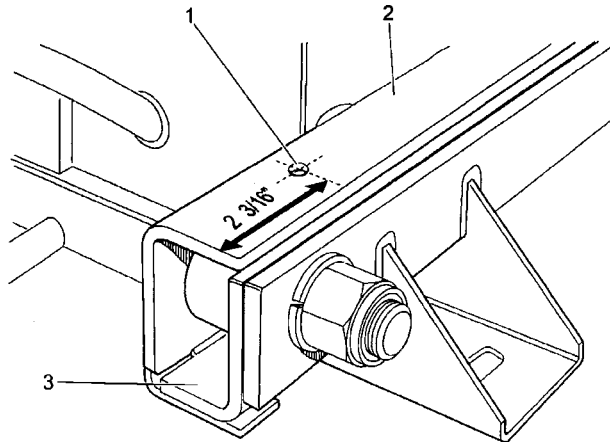

Figure 1-1 Quick Release Pin Hole
3. Drill 2 3/16" from the center edge of the battery tray arm (2), a 3/8" hole (1). Refer to **Figure 1-1**.
Ensure that the hole completely goes through the bottom plate (3). Refer to Figure 1-1.